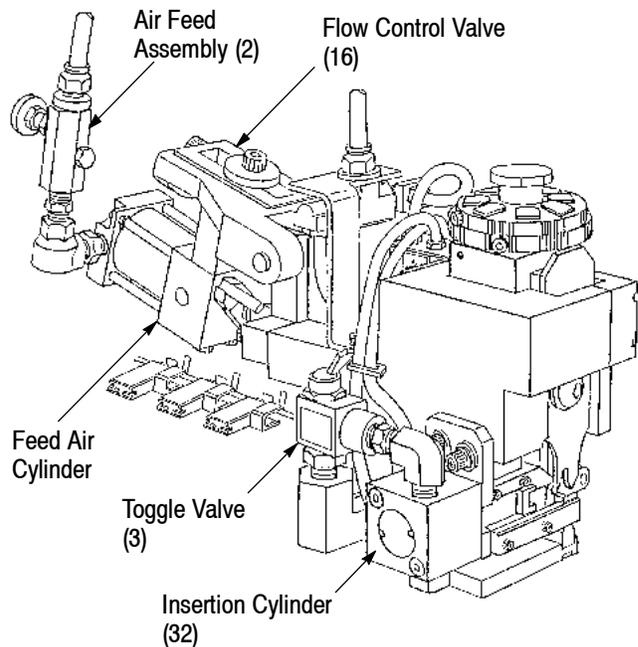

Figure 2
4.2. Cylinder Mount Adjustment (Figures 2 and 9)